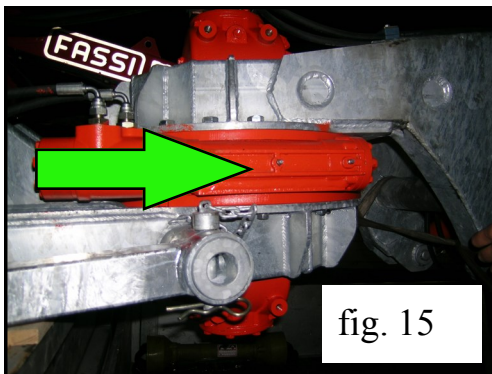

fig. 15
- 2) Every 50 hours of operation, grease the rotating parts: lubricators, piston articulated joints, toothed wheels, fifth wheel (figure 15) etc..